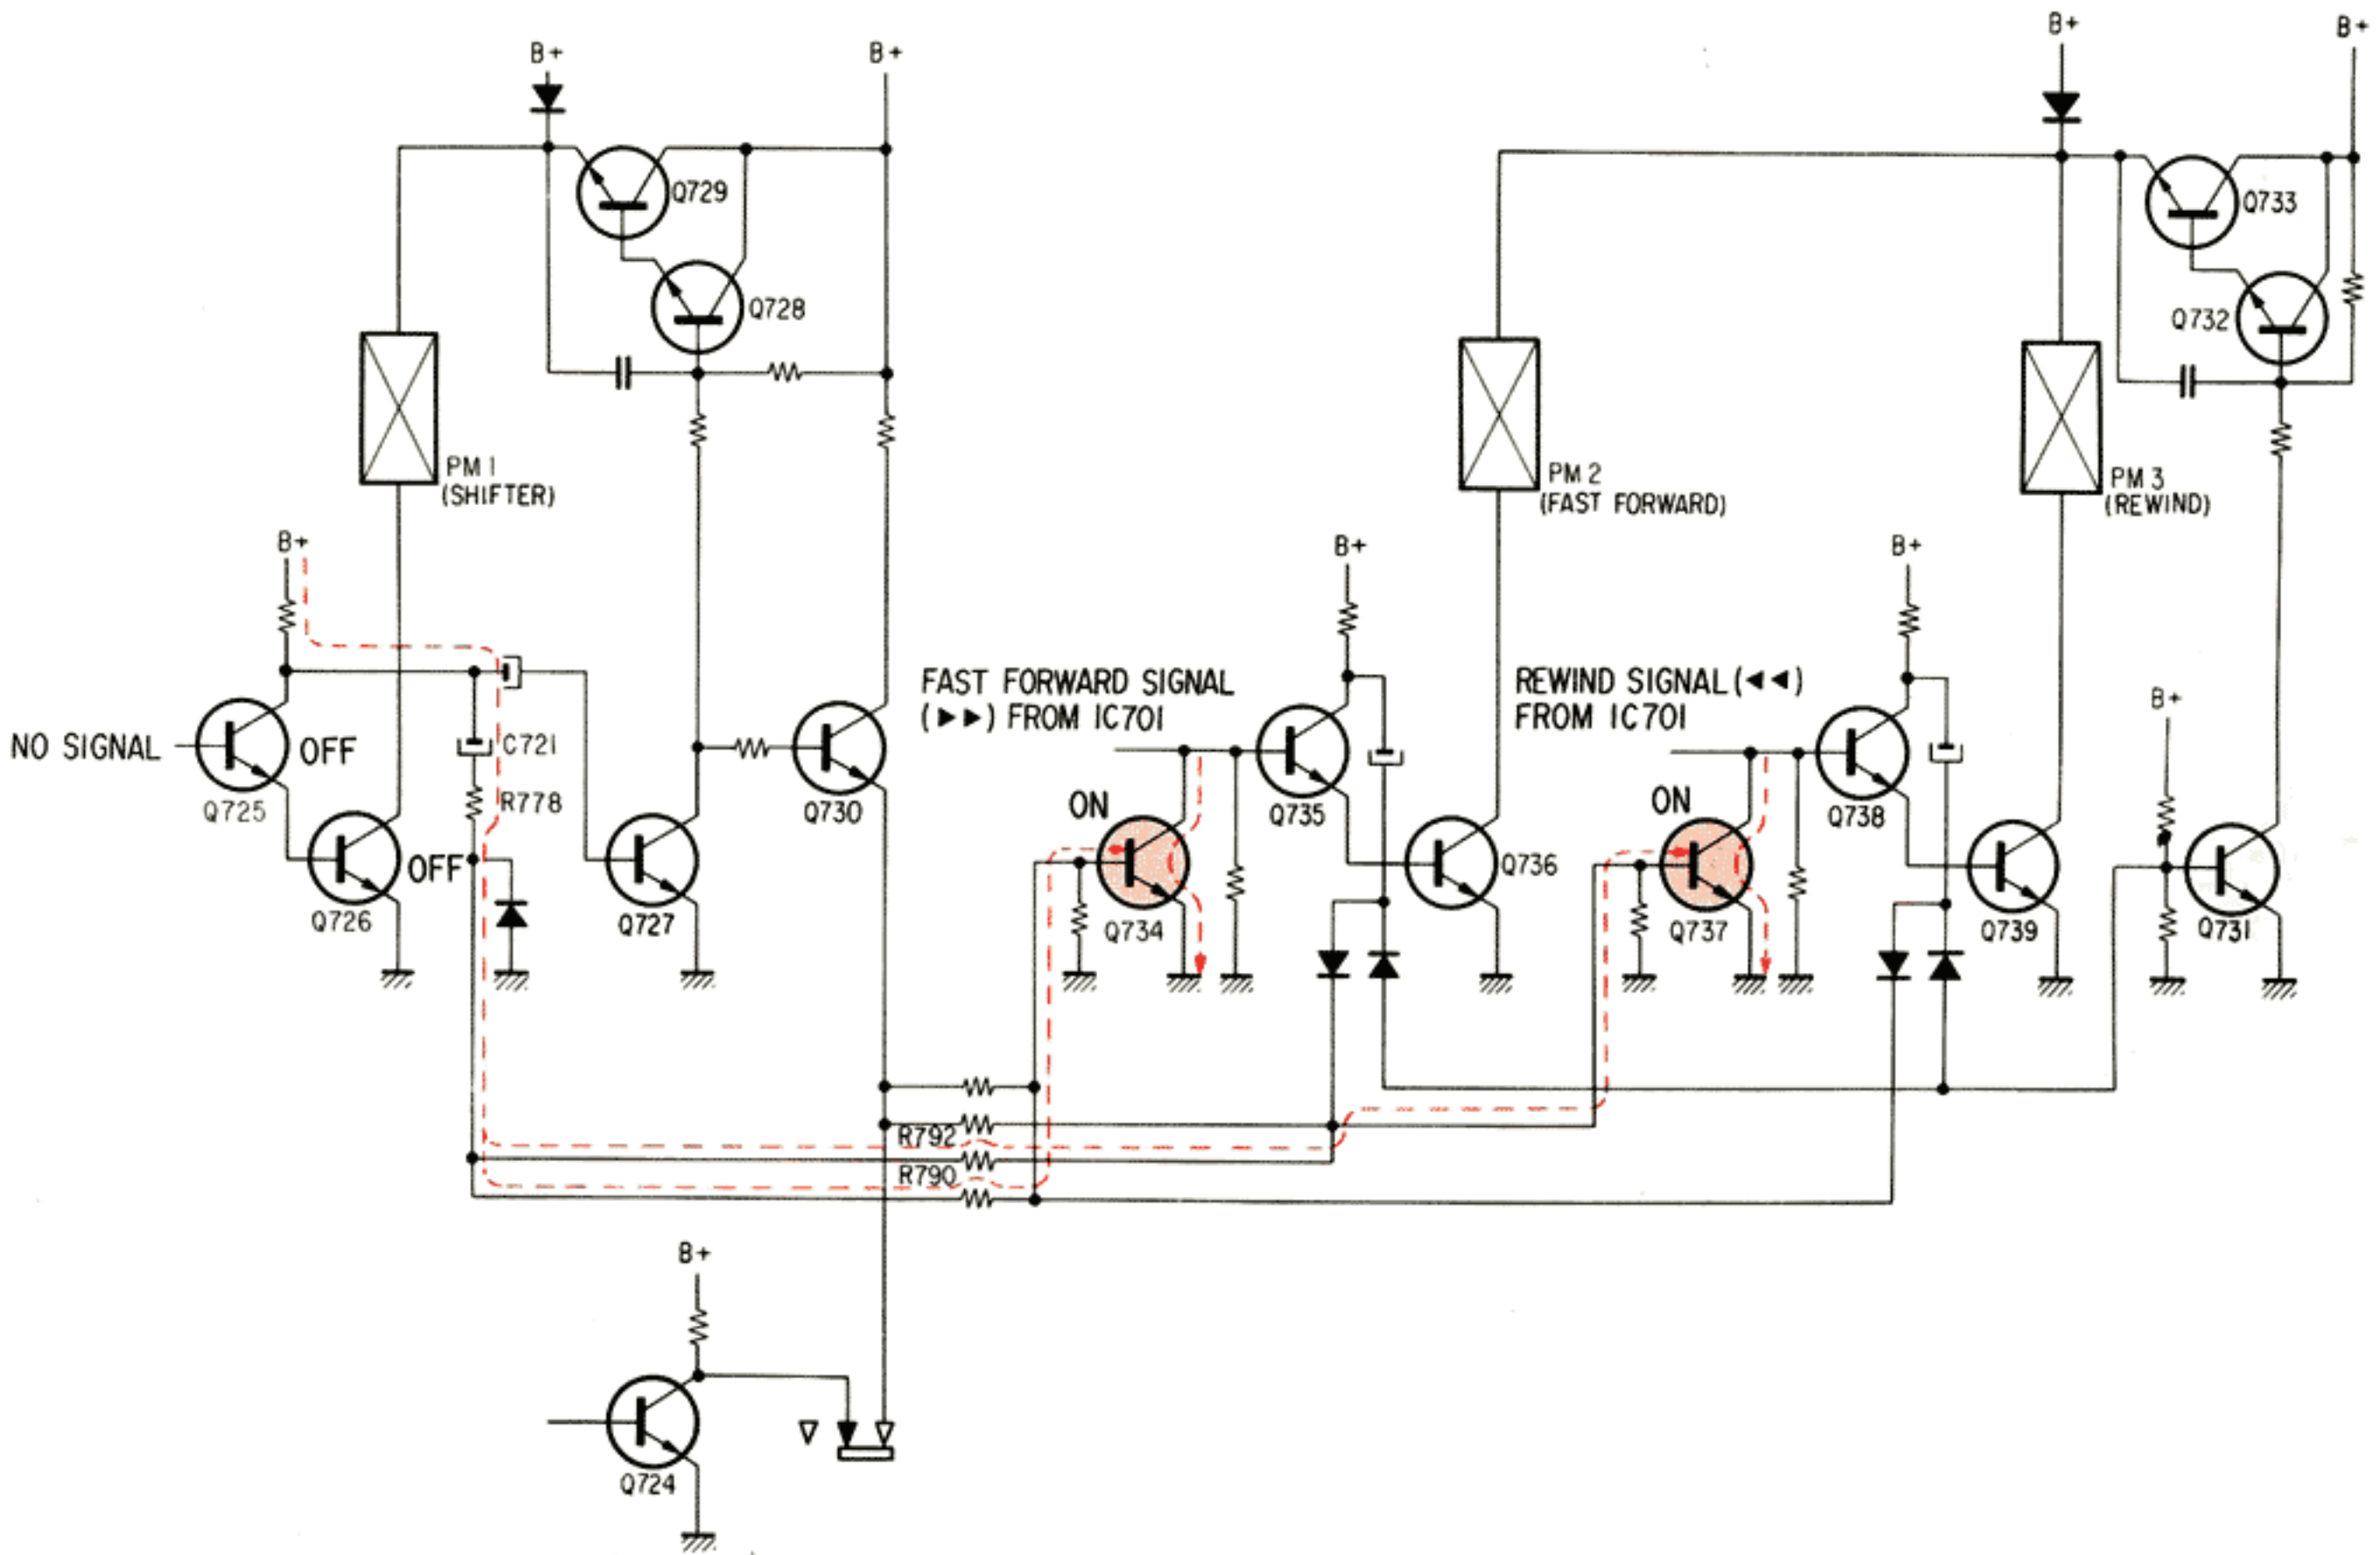

Fig. 1-7 Record Mode → Fast Forward or Rewind Mode
5. Record mode → fast forward or rewind mode (via temporary STOP mode) (See Fig. 1-7)